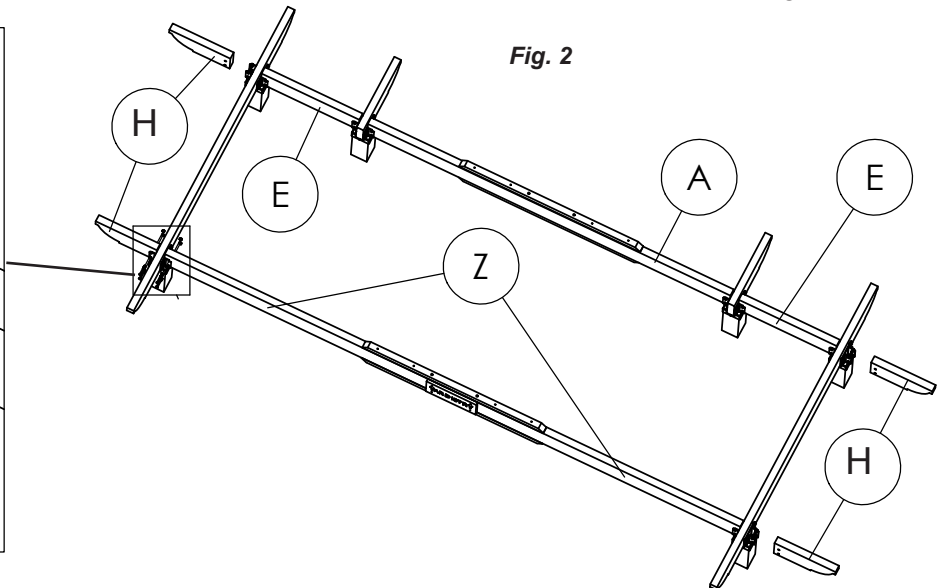

Fig. 2
3. Attach one A- Back Beam and one Z- Front Beam to Post Top Connectors with (WH) 7/16" Hex Bolt as shown in Fig. 2 and 2A.
4. Attach four H- 2 x 6 x 13 1/2" Beam Ends to Post Top Connectors with (WH) 7/16" Hex Bolt as shown in Fig. 2 and 2A.
5. Attach two E- 2 x 6 x 21 5/8" Beams to Post Top Connectors with (WH) 7/16" Hex Bolt as shown in Fig. 2 and 2A.